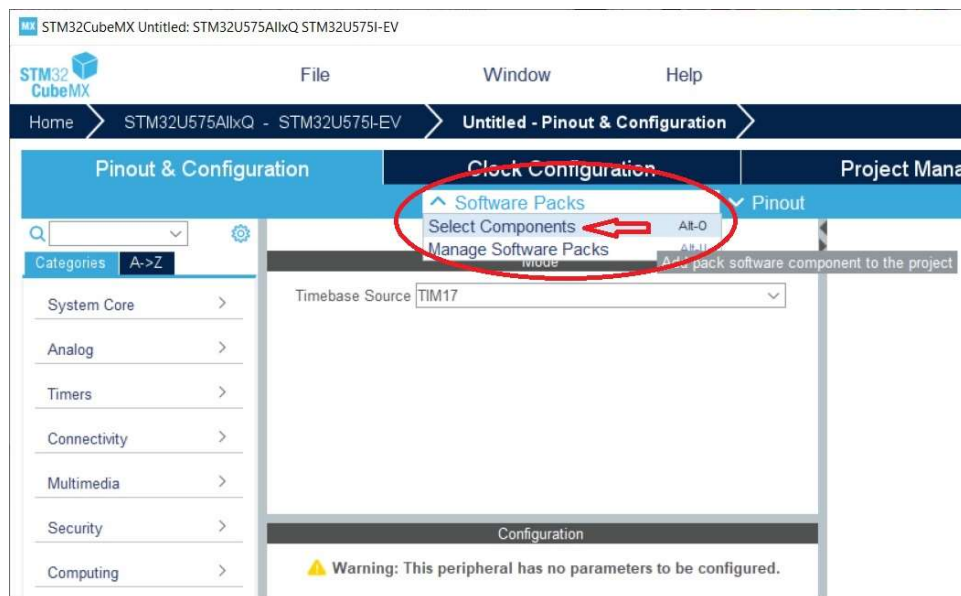

Figure 3.2 – Select “Software Packs”
- a) Open the “**Software Packs Component Selector**” window using the keyboard shortcut “**ALT+O**” or by clicking on “**Software Packs**” tab and choosing “**Software Components**” as shown in Figure 3.2.